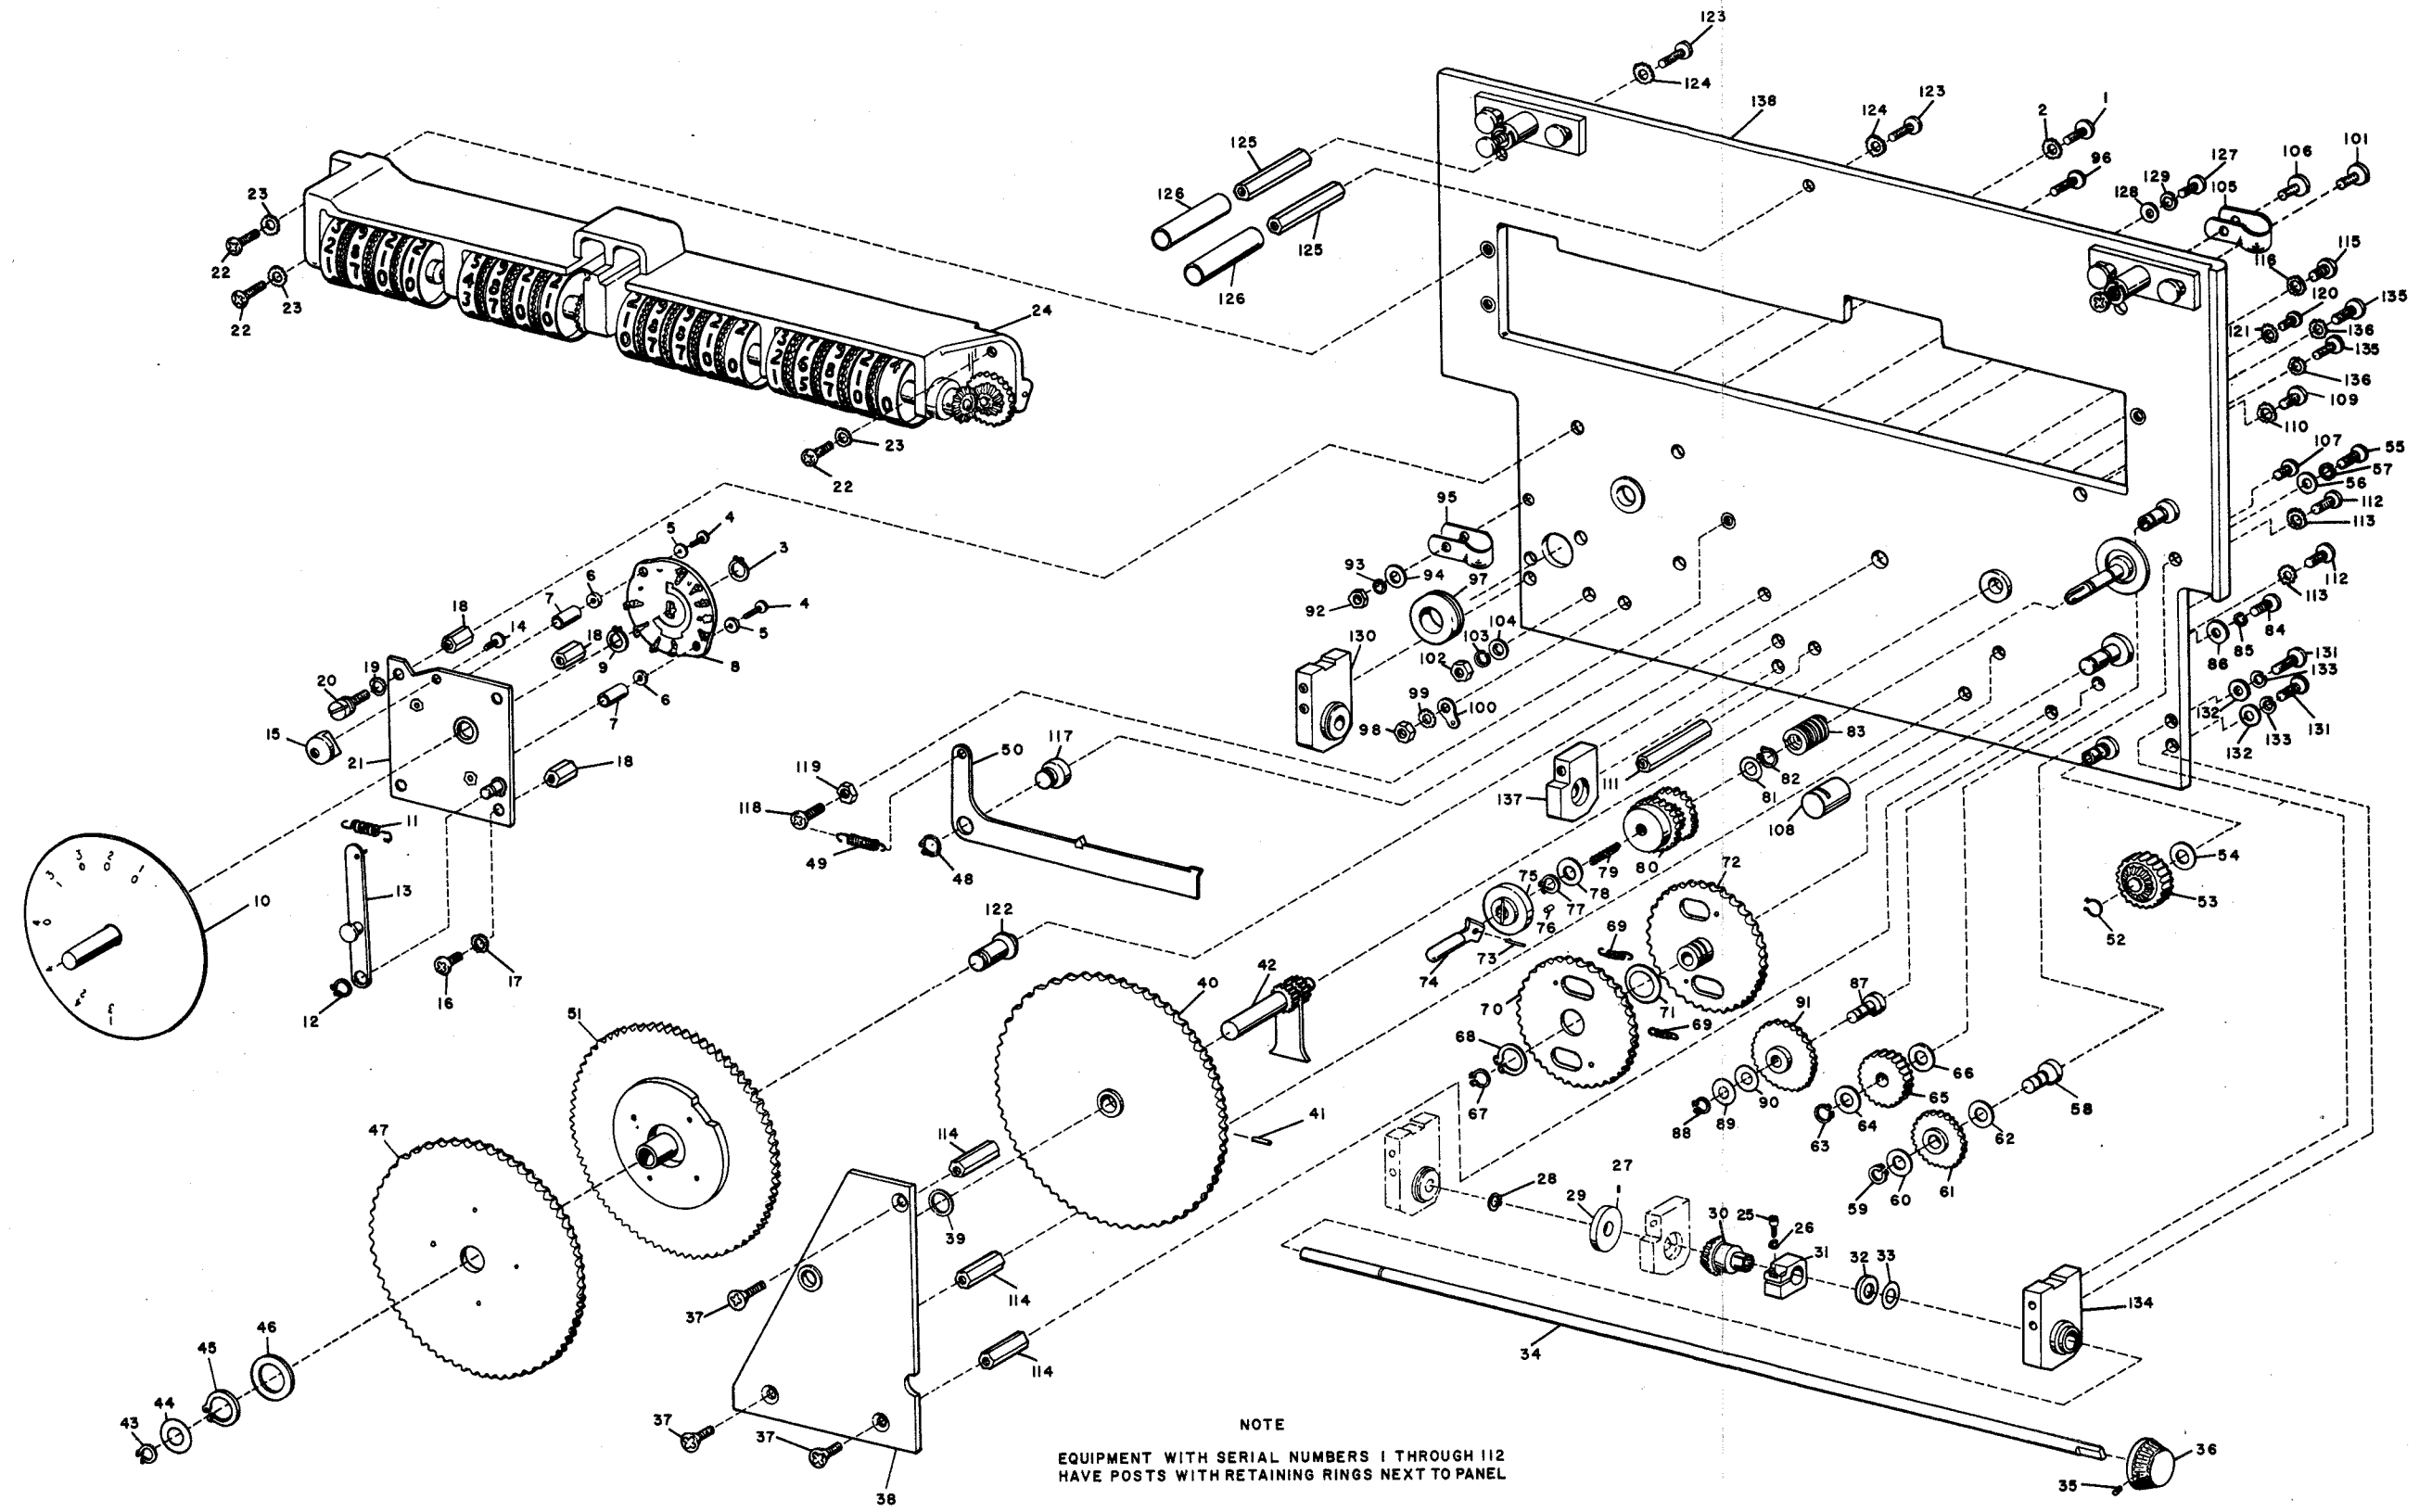

Figure 6-5. Front Panel Assembly,
c. FRONT PANEL GEAR ASSEMBLY AND COUNTER. - Refer to table 5-13 and paragraph 5-3d. for inspection of gears. Refer to figure 6-5 and assemble front panel gear assembly as follows:
- (1) Mount block (134) to panel (138) using bolts (131) lock washers (133) and washers (132).
- (2) Mount block (137) to panel (138) using bolts (135) and lock washers (136).
- (3) Mount block (130) to panel (138) using bolts (127), lock washers (129) and washers (128).